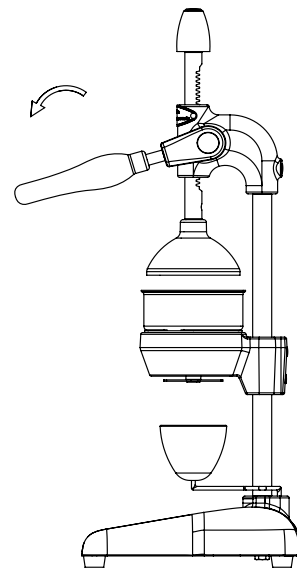

Figure 6
Turn the products' Arm (09) approximately 1,5 tour around towards yourself to squeeze the fruit. **(Figure 6)** After squeezing process, turn around the Arm (09) in opposite and remove the fruit pulp from the Strainer.